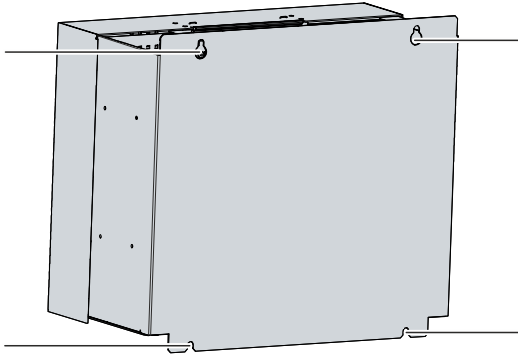

Fig. 17: Control cabinet installation
2. Hang the PC on the screws at the marked points of the mounting concept (see Fig. 17).